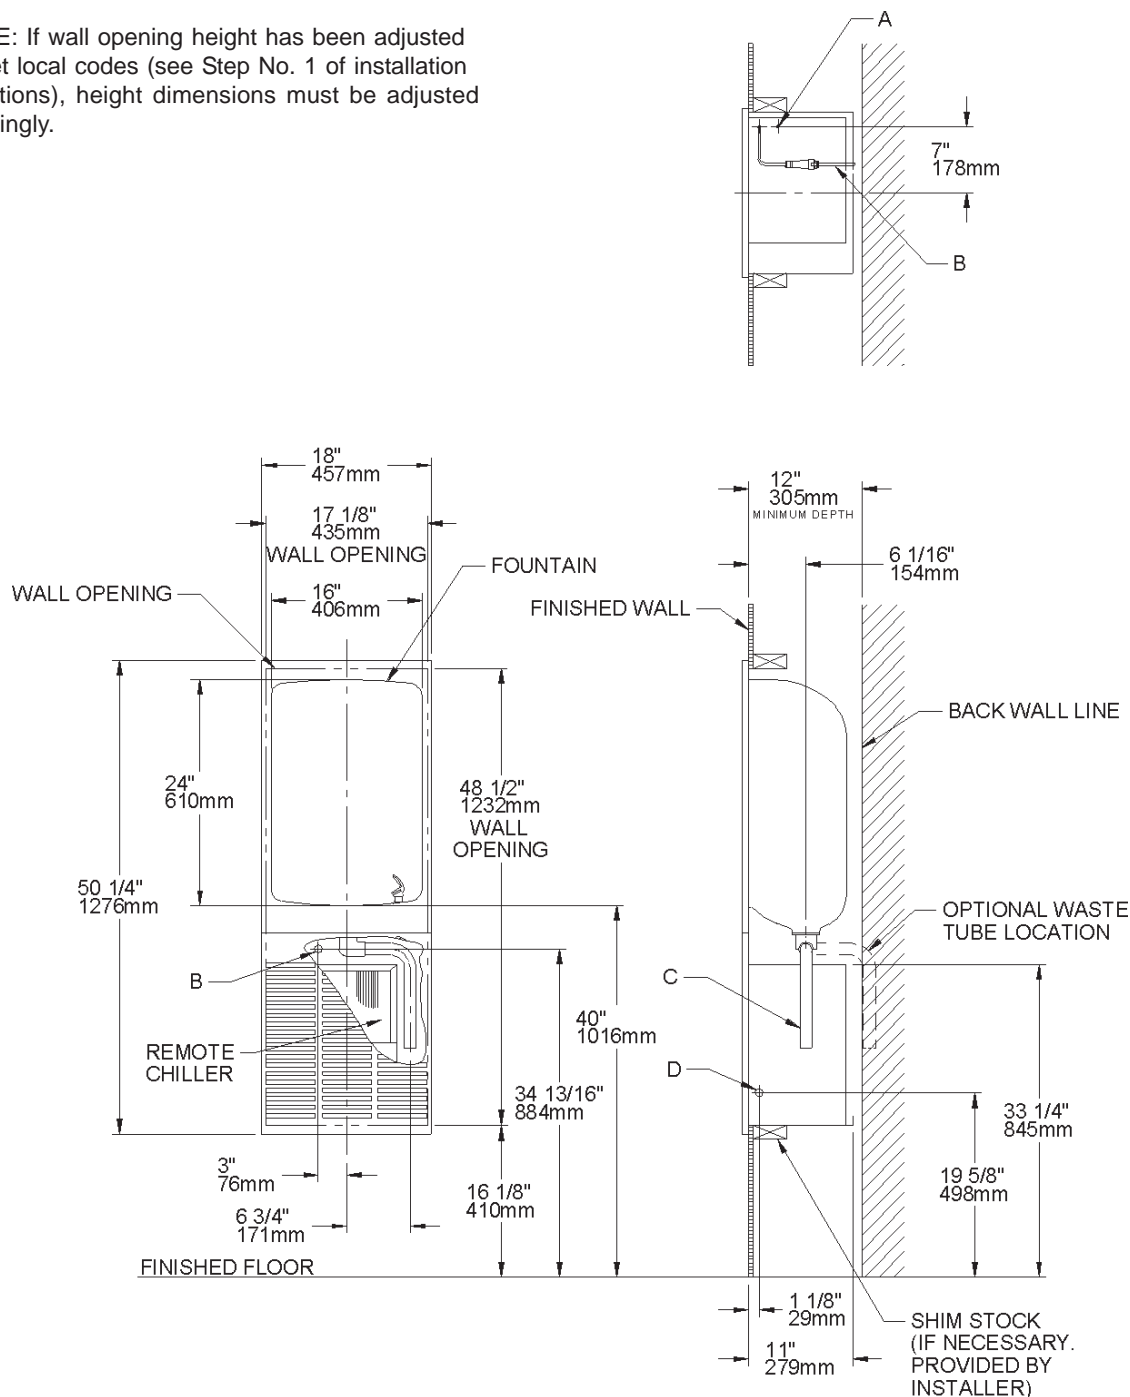

FIG. 5
3. **Install** rough plumbing to fountain. See Fig. 5 for location of supply water inlet to chiller and location of waste water outlet.
6. **Install** wall frame assembly in wall opening with front edge of frame flush with finished wall face. Secure frame through holes in top and sides to wall support members with 5/16" diameter fasteners (bolts or lag screws) as required by wall constructions. (14) bolts/screws required. CAUTION: DO NOT USE LESS THAN REQUIRED QUANTITY AND SIZE (DIAMETER) OF FASTENERS.
8. **Install** electrical conduit. Fig. 5 shows electrical conduit connection location.